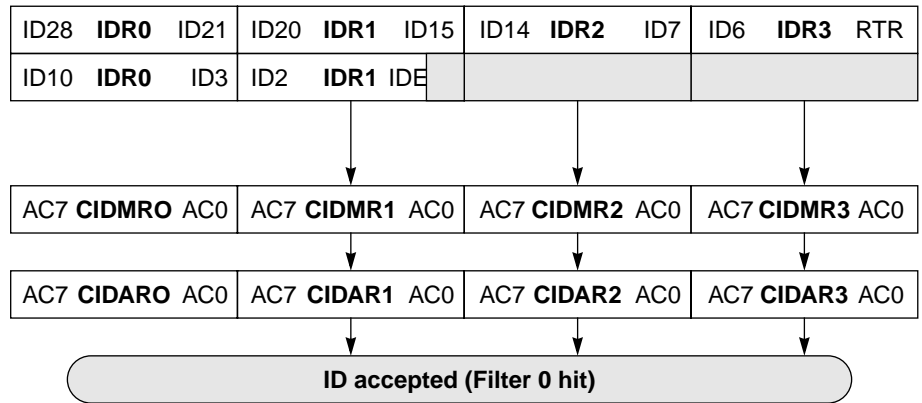

Figure 46 32-bit Maskable Identifier Acceptance Filters
- Two identifier acceptance filters, each to be applied to a) the full 29 bits of the extended identifier and to the following bits of the CAN frame: RTR, IDE, SRR or b) the 11 bits of the standard identifier, the RTR and IDE bits of CAN 2.0A/B messages. This mode implements two filters for a full length CAN 2.0B compliant extended identifier. Figure 46 shows how the first 32-bit filter bank (CIDAR0–3, CIDMR0–3) produces a filter 0 hit. Similarly, the second filter bank (CIDAR4–7, CIDMR4–7) produces a filter 1 hit.